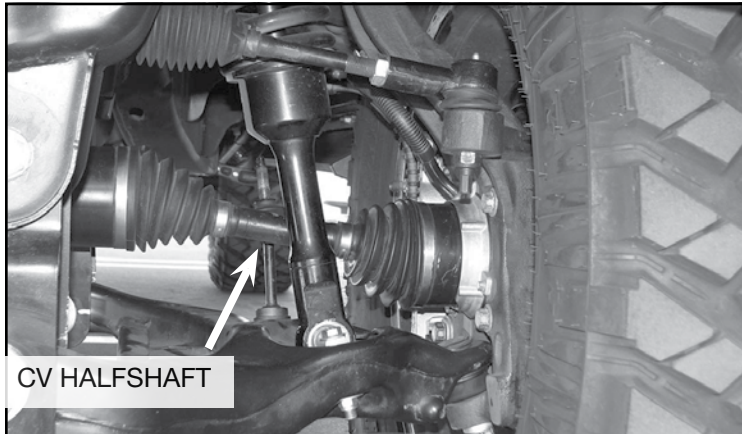

FIGURE 12 - STEP 12
12. With the vehicle in PARK, start the engine. **NOTE: MAKE SURE THE VEHICLE IS PLACED IN 2WD.** Rotate the wheel/tire and check to see if the CV halfshaft rotates. If the CV halfshaft rotates, either a vacuum leak is present or the IWE (Intergrated Wheel End) was installed improperly. **NOTE: DO NOT OPERATE THE VEHICLE OR DAMAGE WILL OCCUR. SEE FIGURE 12**